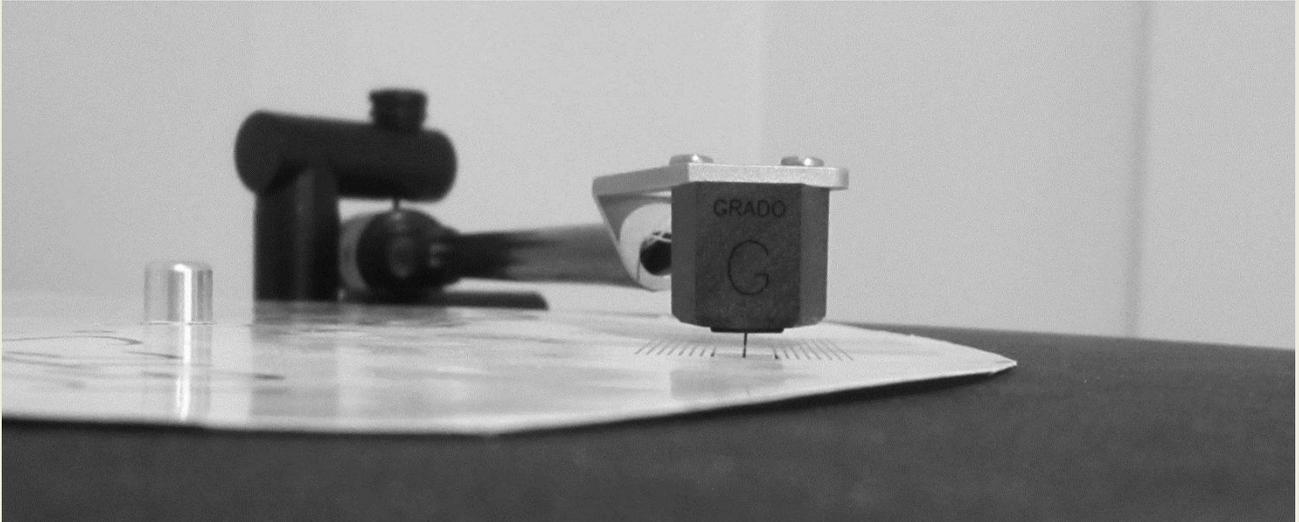

Fig. 2
5. Put the hole of the supplied stylus protractor over the platter spindle and align the arrow so that it is pointing to the dead centre of the arm's pivot point (fig.2). A piece of folded paper jammed between the platter and the plinth is a good idea to stop the platter from rotating during set up. Adjust the position of the cartridge so you have the stylus landing directly on the dot of line C (with Omega Point 3 & 5, the arm base can be swivelled to make the reach longer or shorter while the Omega Point 1's platter can be slid
6. Put the hole of the supplied stylus protractor over the platter spindle and align the arrow so that it is pointing to the dead centre of the arm's pivot point (fig.2). A piece of folded paper jammed between the platter and the plinth is a good idea to stop the platter from rotating during set up. Adjust the position of the cartridge so you have the stylus landing directly on the dot of line C (with Omega Point 3 & 5, the arm base can be swivelled to make the reach longer or shorter while the Omega Point 1's platter can be slid